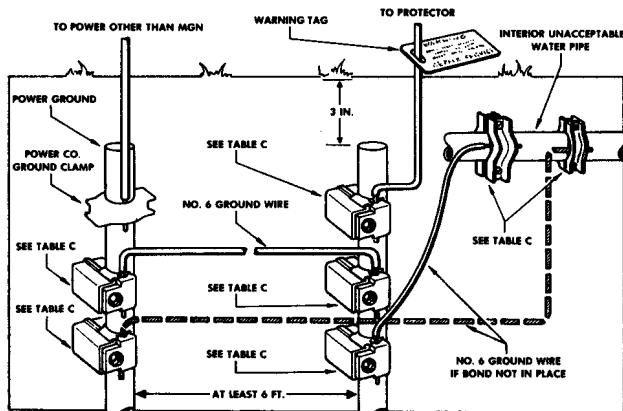

FIGURE 11. Power Other than MGN Grounded to Ground Rod—Unacceptable Interior Water Pipe
b. If the power service and the telephone protector are connected to separate ground rods, bond the two rods together as shown in Figures 11 and 12.